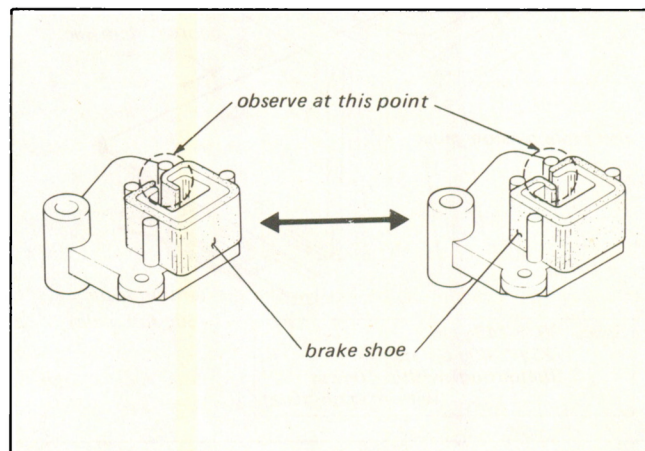

Fig. 7-3. Main brake torque check
6. Attach the brake shoe of the main brake assembly so that it positions a little apart from the original point as shown in Fig. 7-3. If the tape slackens even if the shoe is attached at that position, replace the main brake assembly (Part No. X-3653-338-0) and check the slack again.